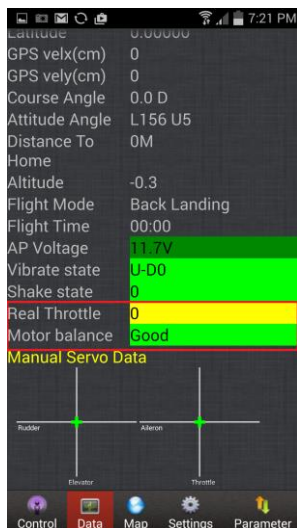

Figure 47
- ❖ **Mobile ground station:** open the mobile ground station and click “Data”, as shown in Figure 47.